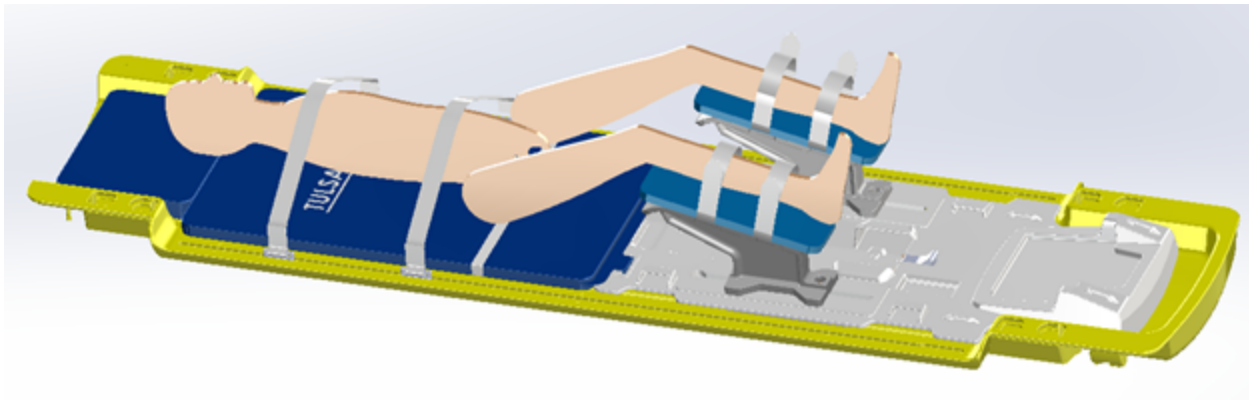

Figure 28: Securing the abdomen and arm straps
1. MRI Technologist: Fasten one abdomen arm-strap tightly over the lower abdomen under the patient's arms to minimize anterior-posterior breathing motion. Wrap the sheet over the abdomen and place the patient's hands on top. Fasten a second abdomen-arm strap over the arms to help fit the patient into the MRI bore (*Figure 28*, your configuration might not match exactly as shown).